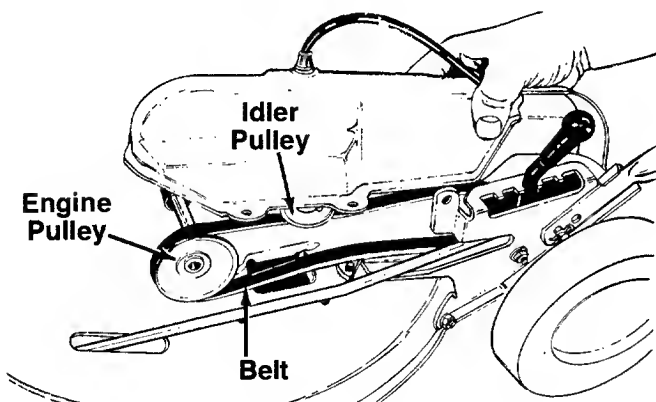

FIGURE 24.
4. Remove the belt from the pulley and the engine pulley. See figure 24.